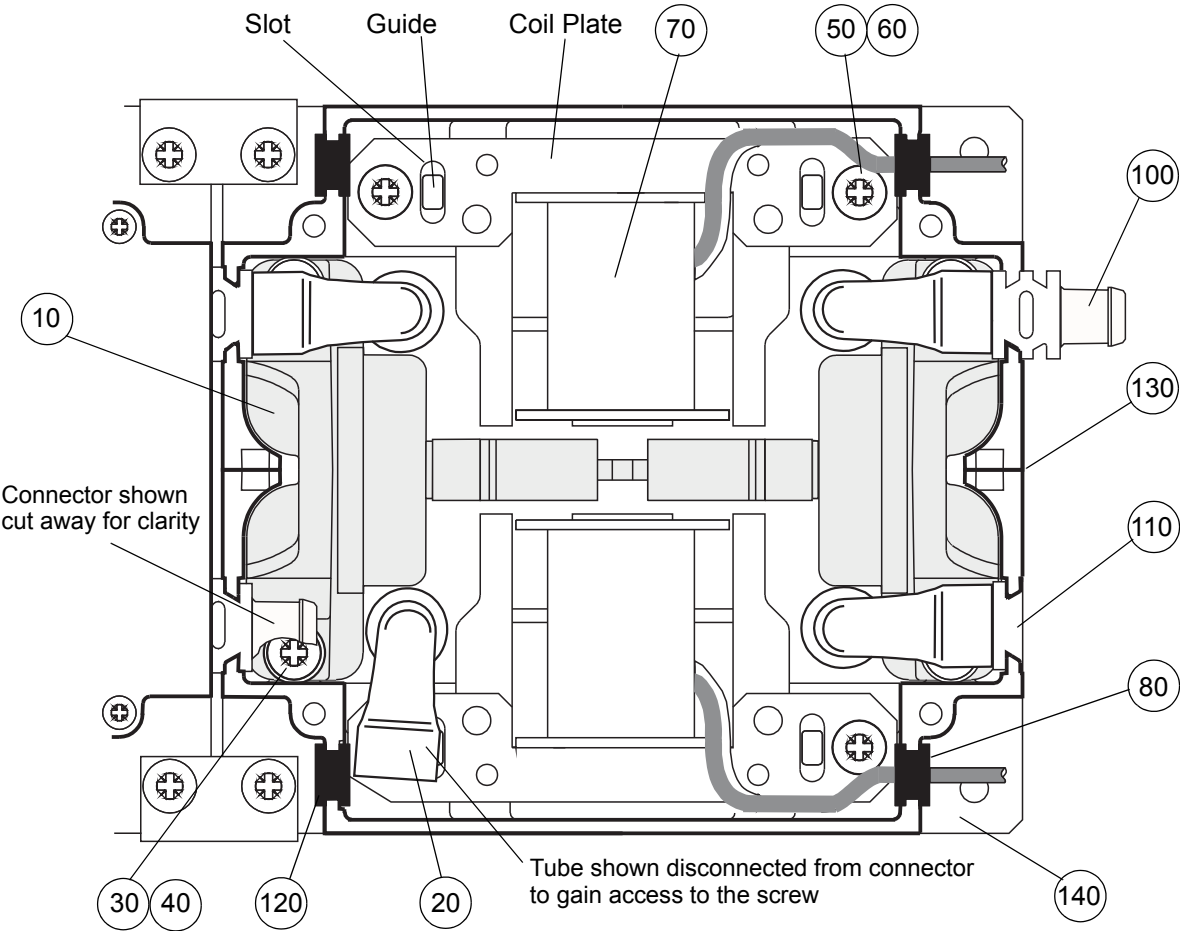

Figure 12 - Replacing the Shuttles and the Coils of the Compressor
- 15.3.1 Using a flat head screwdriver, carefully prise each tube (Fig 12, Item 20) off of its connector and remove the connectors.
- 15.3.2 Remove the screws and washers (Fig 12, Items 30 and 40) from the shuttles Fig 12, Item 10).
- 15.3.3 Remove and discard the shuttles (Fig 12, Item 10) from the compressor. Make sure the small O-rings in the base of the shuttle are removed with the shuttle.
- 15.4.1 Ensure the O-rings are in the bottom of the shuttles and install the new shuttles (Fig 12, Item 10) into the compressor. Install and tighten the screws and washers (Fig 12, Items 30 and 40) to secure each shuttle in position and refit the connectors.
- 15.4.2 Push each tube (Fig 12, Item 20) fully onto its connector.
- 16.3 Disconnect the power cables of the coil assemblies (Fig 12, Item 70) from the PCB display board. Lift the grommets (Fig 12, Item 80), holding the power cables, out of the slots in the compressor.
- 16.5 Remove the screws and washers (Fig 12, Items 50 and 60) from the coils.
- 16.6 Lift the coils (Fig 12, Item 70) out of the compressor.
- 16.8 Loosely install the screws and washers (Fig 12, Items 50 and 60).
- 16.9 Move both coils away from the shuttle and carefully place the appropriate saddle gauge over the shuttle magnet, in between the coils (Fig 12, Item 70).
- 16.11 Without moving the coils, tighten the screws (Fig 12, Item 50).
- 16.13 Install the grommets (Fig 12, Item 80) into the slots in the compressor and connect the power cables to the PCB display board.